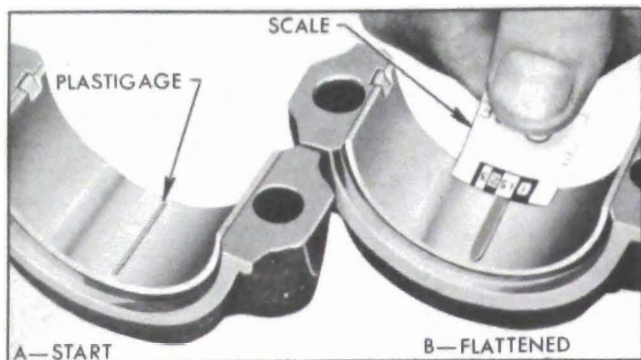

Figure 2-40—Checking Bearing Clearance With Plastigage
2. Place a piece of Plastigage lengthwise along the bottom center of the lower bearing shell (Fig. 2-40, view A), then install cap with shell and tighten bolt nuts to 30-35 ft. lbs. torque. NOTE: The rib on edge of cap and the conical boss on web of rod must be toward rear of engine on all rods in left bank and toward front of engine in right bank.
5. Using the scale printed on the Plastigage envelope, measure the flattened Plastigage at its widest point. The number within the graduation which most closely corresponds to the width of Plastigage indicates the bearing clearance in thousandths of an inch. See Figure 2-40, view B.